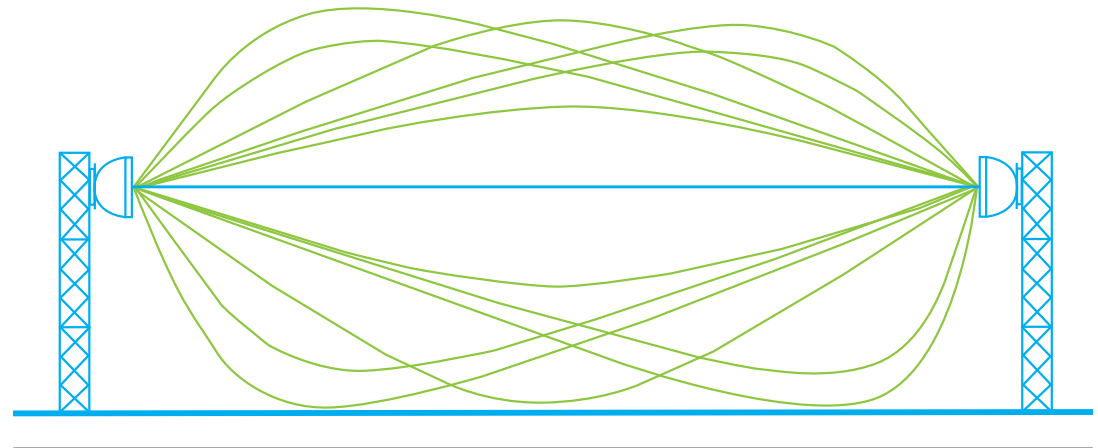

Figure 3.2: Diffraction. Odd and even multi-half wavelength signals form ellipsoids around the direct ray
- **Diffraction.** Microwave rays follow multiple paths as they arrive at the same end point (see Figure 3.2). Rays with odd half-wavelengths travel longer than the direct ray and enhance the direct signal, while even half-wavelengths degrade the direct signal. When drawn, these odd—and even multi-half wavelength—signals form ellipsoids around the direct ray. When the received ray is exactly one half wavelength longer, the elliptical path it travels is called the first Fresnel Zone (F1). Designing the path such that the clearance is 0.6 F1 minimizes the diffraction loss.